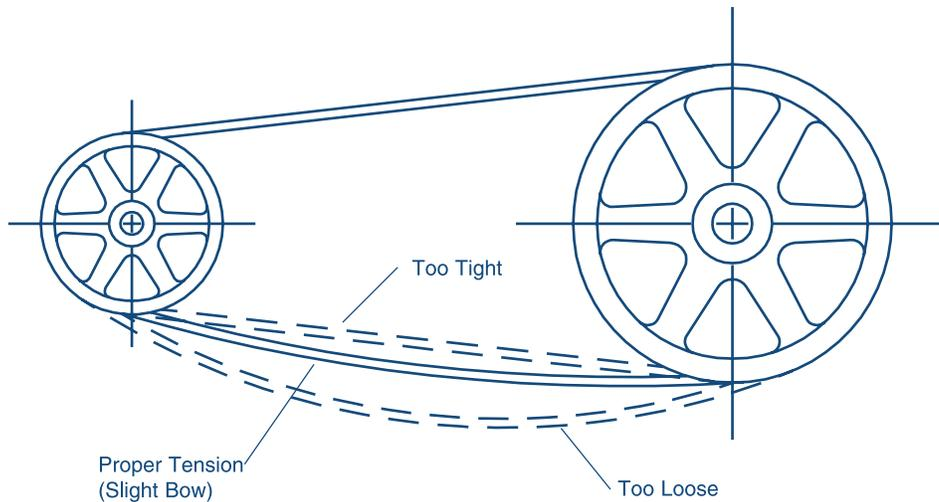

Fig. 4 Belt tension.
- (i) Shorten the center distance between the driven and driver sheave so the v-belts can be slipped into the sheave groove without damage. While the v-belts are still loose on the drive, rotate the drive until all the slack is on one side. Then increase the center distance until the v-belts are snug (Figure 4). NOTE: Never “roll” or “pry” the v-belts into the sheave grooves. This can damage the v-belt cords and lead to v-belt turnover, short life, or actual breakage. Moreover, it is both difficult and unsafe to install v-belts this way. Keep takeup rails, motorbase, or other means of center distance adjustment free of dirt, rust, and grit. Lubricate adjusting screws and slide rails as required.